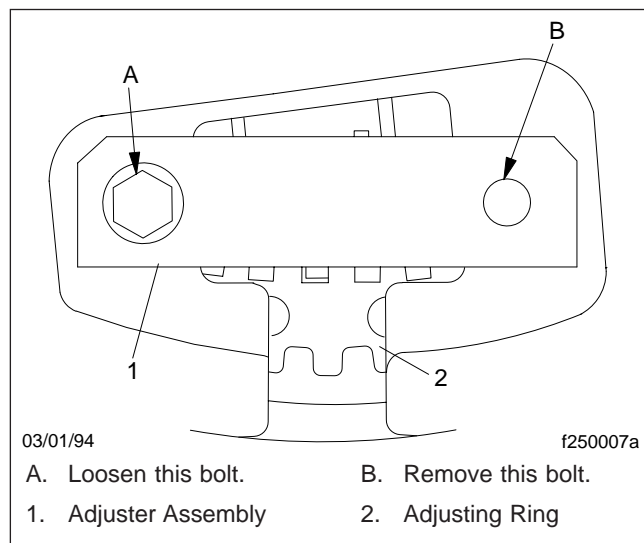

Fig. 12, Remove the Right-Side Bolt
2. Remove the right-side bolt from the adjuster assembly, and loosen the left-side bolt one turn. See Fig. 12.